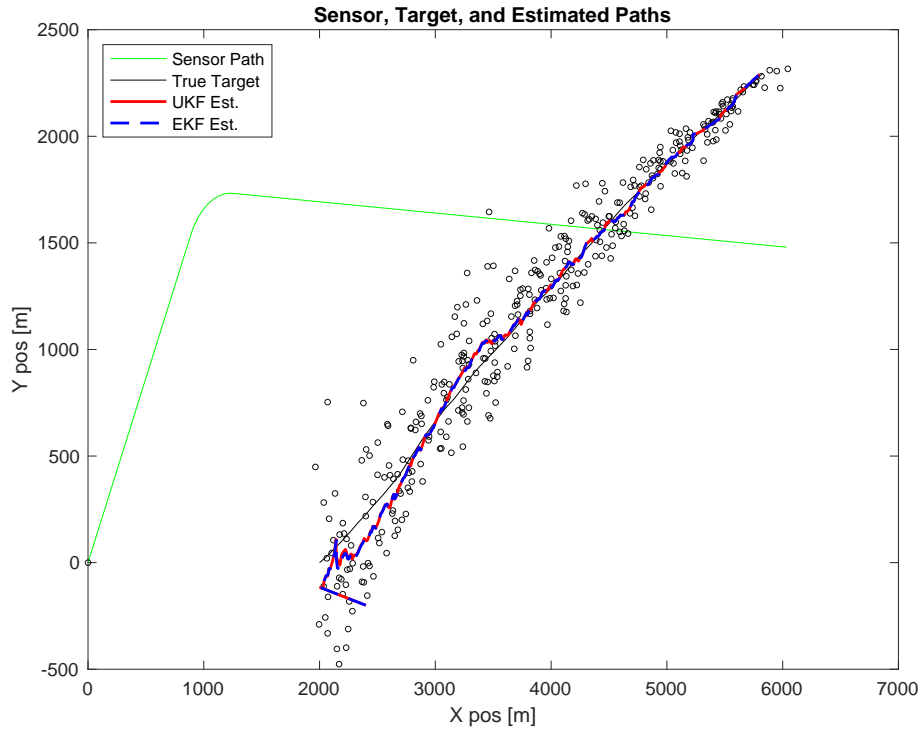

Figure 1: Path Results for Problem 1 - 4.
Create Figure 1 and plot the sensor path and the target path on it, using different colors for each path.
- Add the estimated target path (in a new color) to Figure 1.
- Add the estimated target path in a different color to Figure 1.